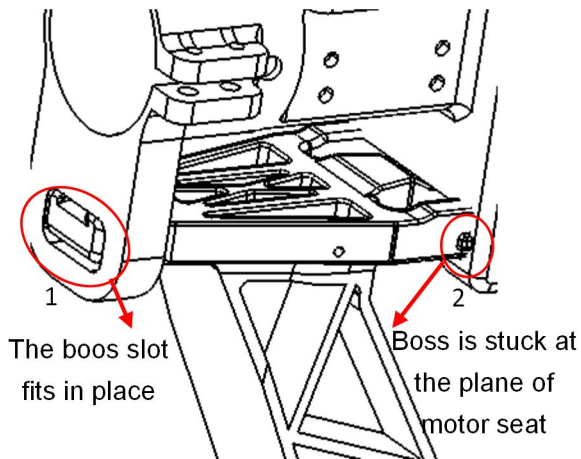
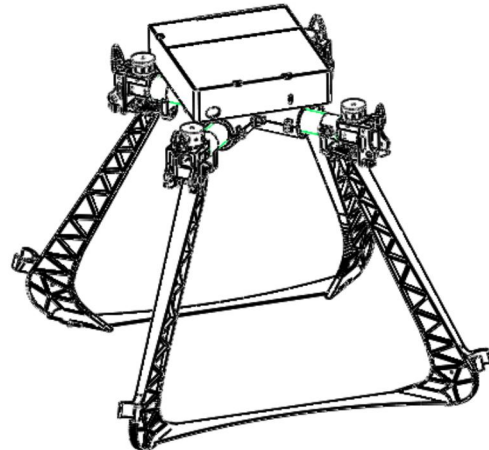

Figure 5
Figure 6
2)The landing gears should be installed as figure 5. It should be completed as Figure 6.